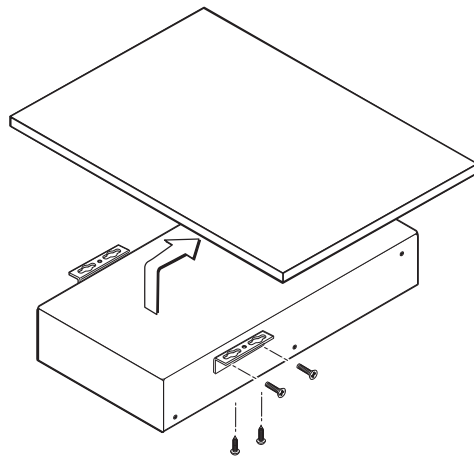

Figure 9 — Under-desk mounting the PS 123
1. Attach the mounting brackets to the power supply with the provided machine screws (figure 9).